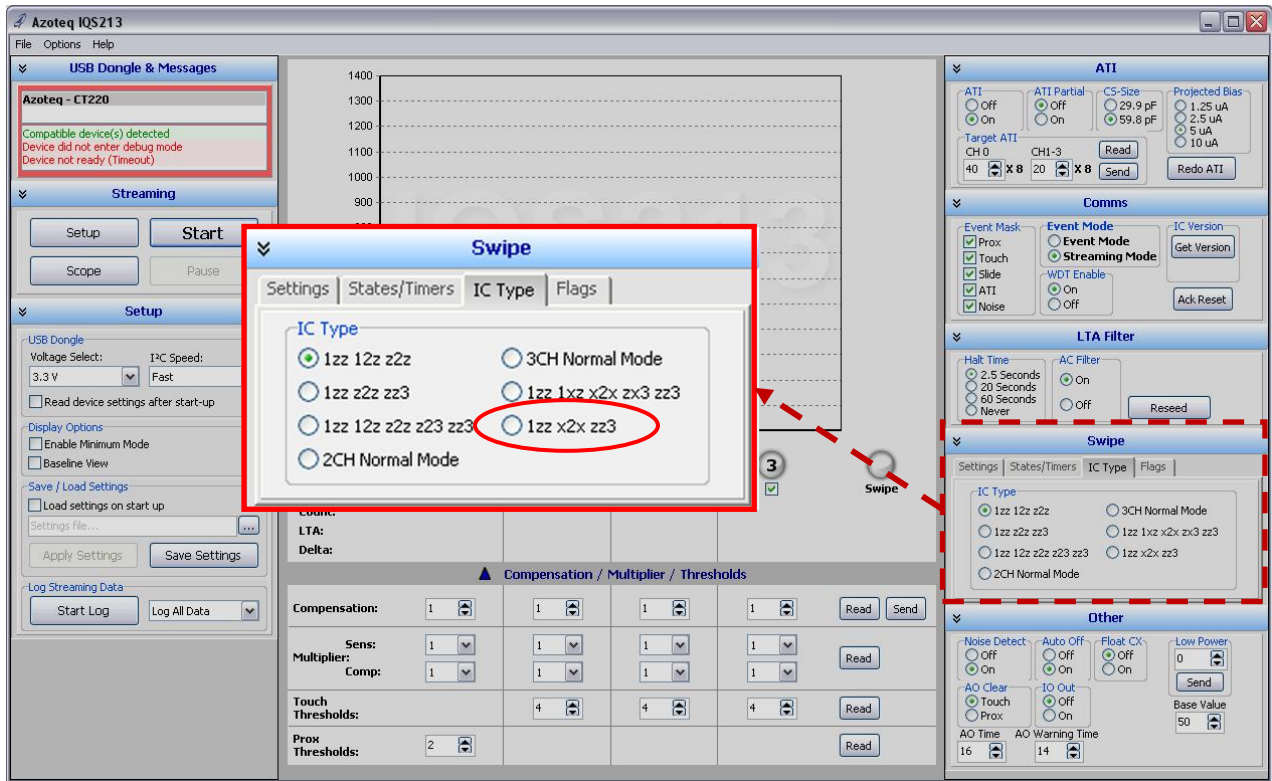

Figure 3.6 IQS213 IC Type Selection
- ❏ The user can also select the desired **IQS213** IC type from the “IC Type” tab in the GUI, as shown in Figure 3.6. This will configure the **IQS213** IC to operate as either a SwipeSwitch™ or normal touch and proximity detection device. Please refer to the **IQS213** datasheet for IC type configurations.
- ❏ Hint: For first-time users of **IQS213** SwipeSwitch™ related devices, it is recommended to select the “**zz1 x2x zz3**” IC type option, if using a 3-channel swipe electrode configuration (see Figure 3.6). Selecting this IC type, together with the “Zero State” = On function, will provide the most flexible swipe detection capability.